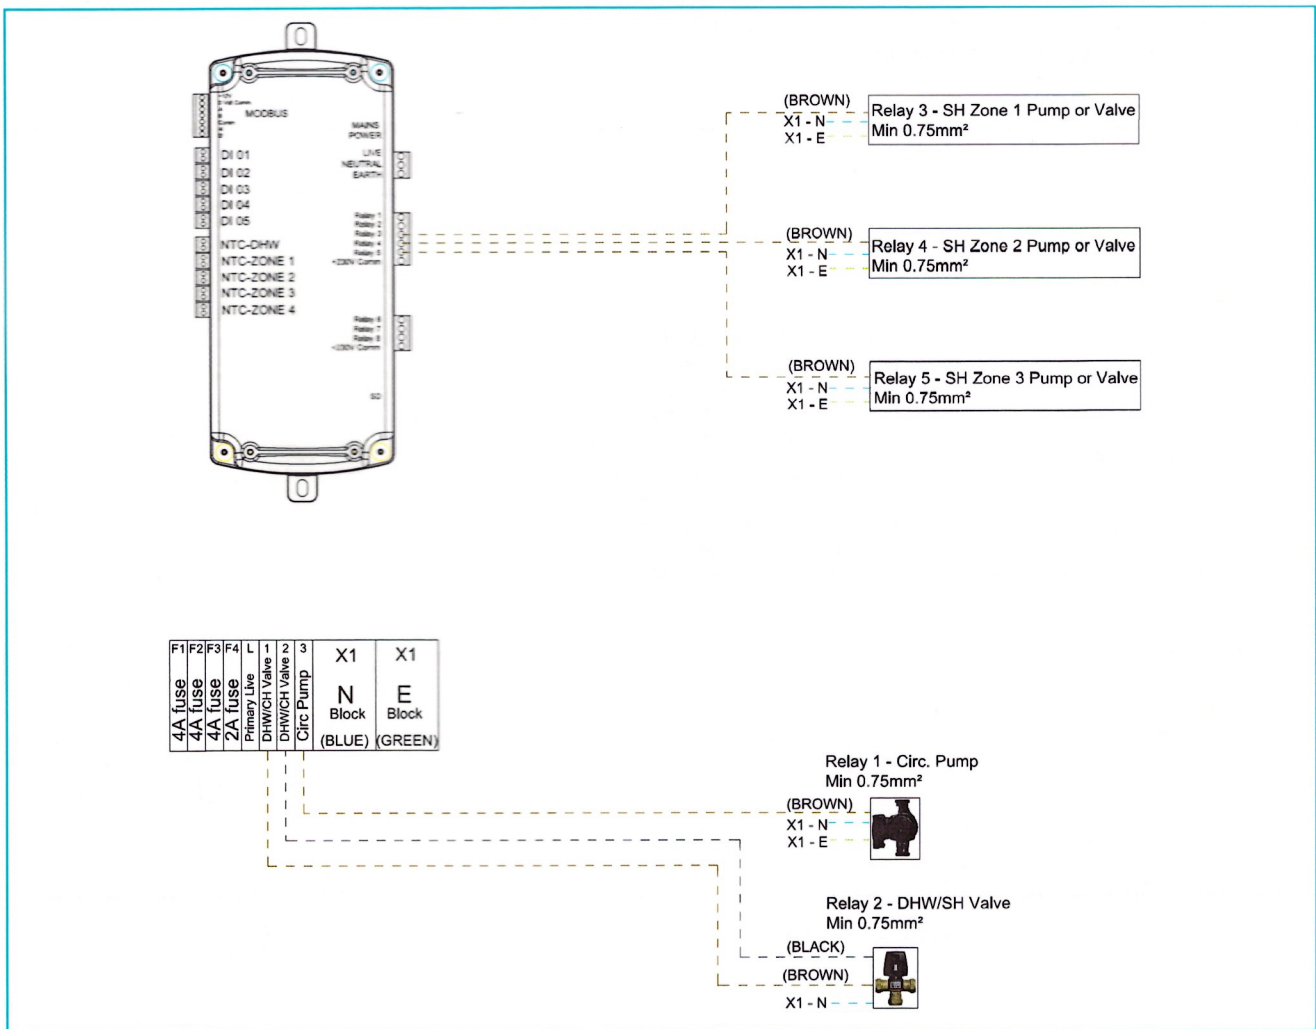

Figure 10: Zone Connection
- Zoned connections must be wired via the cylinder PCB, i.e. circulation pumps and/or zone valves, 5.9.3. See Figure 10.
- Where additional zones are required, the installer must specify and source suitable components. Figure 10, illustrates wiring of each pump and/or zone valve for up to 4 zones.